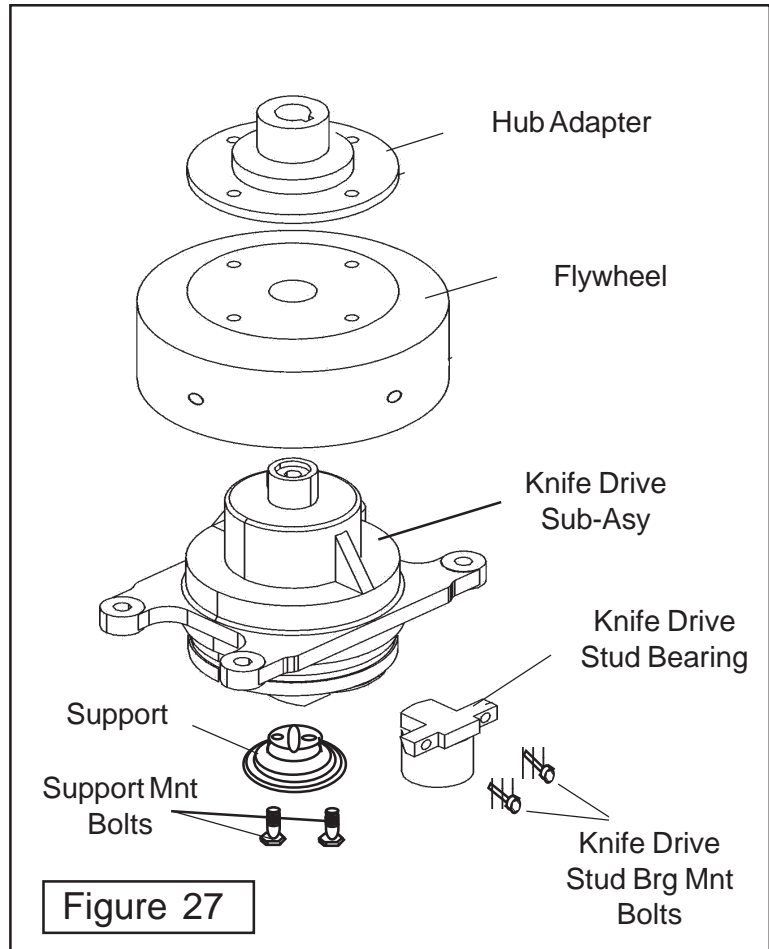

Figure 27
5. **1 st.** is to remove the two knife drive bolt that retain the knife drive stud to the drive assembly support bracket, this allows the drive stud bearing assembly to stay with the cutterbar (See Figure 27) .
7. The Hub Adapter is bolted to the Flywheel with four bolts, the flywheel is pressed down over the top shaft of the drive subassembly. The Knife stud bearing support bolts to the bottom of the drive subassembly with two bolts. The Knife drive stud bearing bolts to the support bracket (See Figure 27). If you unbolted the stud drive and left it in the cutter bar it should be removed and inspected. This stud drive is a sealed bearing drive assembly, there are no replaceable parts in it so it can only be replace as an assembly. To check the stud drive bearing assembly hold the top where the two bolts mount it to the support bracket. Grab the OD of the stud drive and the outer cover should spin freely while the top for the two bolts will not, it should not be rough or out of round. To work properly it must be free and smooth turning. Check the nylon bearing in the knife head weldment, it has to be in good condition also. This nylon bearing does not turn when installed, it acts solely as a bushing between the clamp and stud drive bearing assembly and prevent the clamp from crushing the drive stud bearing. (See Figure 22, 23 & 27)